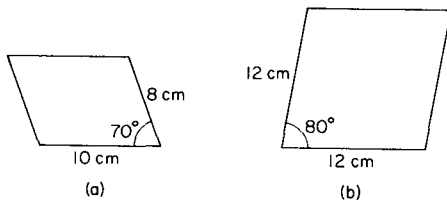

Fig. 3.23
10. Construct the parallelograms shown in Fig. 3.23.